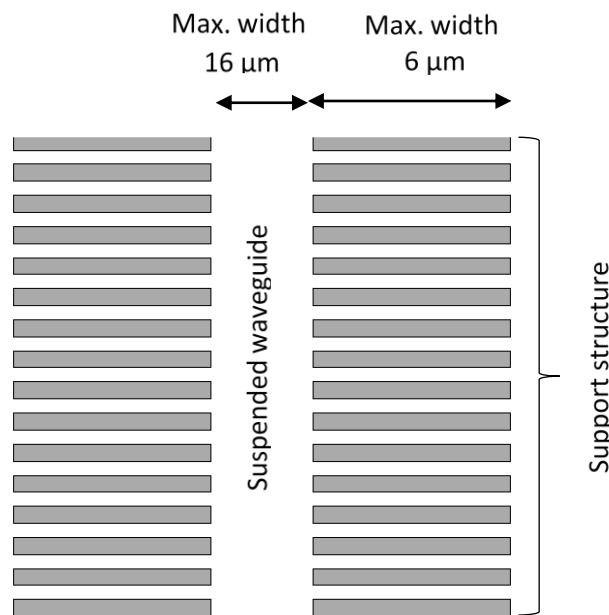

Figure 1: Design rule for suspended waveguide and support structure maximum width
[§] After HF etch, the expected lateral BOX undercut is 8 μm. Therefore, the maximum width of suspended structures should be 16 μm (see Figure 1).
^αWidth of the supporting structure/subwavelength structure <6 μm have proven to work (see Figure 1). **If you try more challenging dimensions, do so at your own risk.**
- After HF etch, the expected lateral BOX undercut is 8 μm . Therefore, the maximum width of suspended structures should be 16 μm (see Figure 1).
- Width of the supporting structure/subwavelength structure <6 μm have proven to work (see Figure 1). **If you try more challenging dimensions, do so at your own risk.**